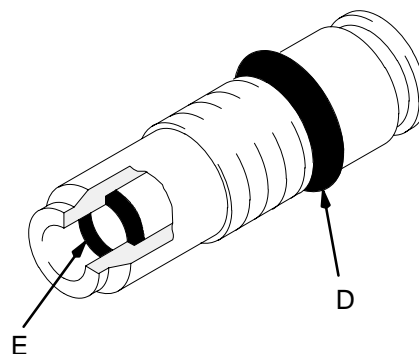

Fig. 10
If the resistance is outside the specified range, remove the resistor stud (22). See **Air Cap/Nozzle/Resistor Stud Replacement** on page 22. Check the resistance between the black resistor stud contact ring (D) and the needle contact ring (E). Refer to Fig. 10. You may have to press down on the contact ring (D) in several places to get a good reading.
The resistor stud contact ring (D) is a conductive contact ring, **not** a sealing o-ring. See Fig. 10. To reduce the risk of sparking or electric shock, **do not** remove the resistor stud contact ring (D) or operate the gun without the contact ring in place. Do not replace the resistor stud (22) with anything but a genuine Graco part.